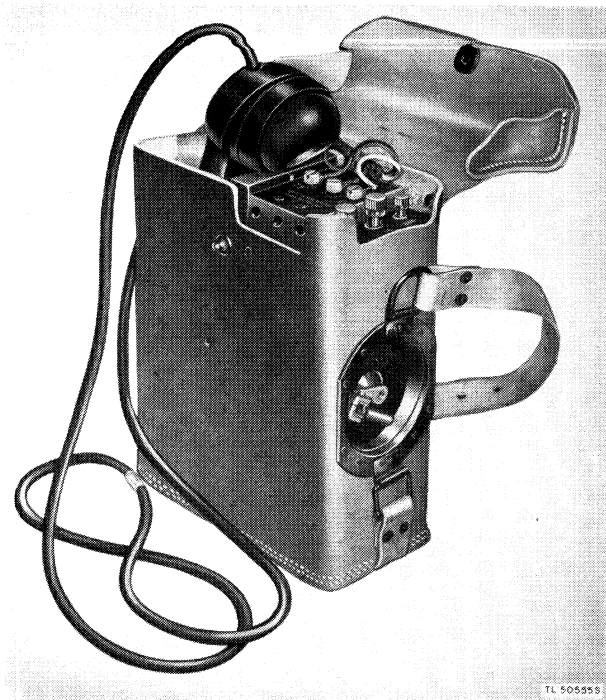

Figure 21. Telephone EE 8-B.
a. TELEPHONE EE-8-(*) (figs. 21 and 74). Telephone EE-8-(*) is a portable field telephone designed for use on either local or common battery telephone systems. It is rugged and compact, and its performance equals that of modern commercial telephones. A talking range of 11 to 17 miles may be expected on Wire W-110-B, depending on weather conditions and the type of construction of the wire line. Two Batteries BA-30 are required to operate it. Telephone EE-8-B may have either